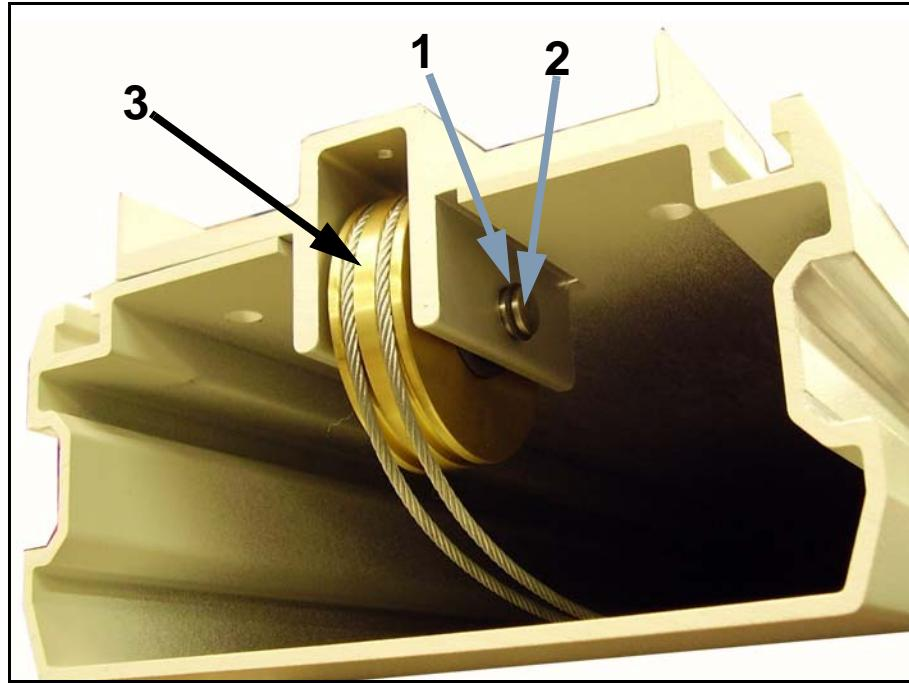

Figure 6-7. Shaft & Pulley
- 6 Remove retaining ring (1 in Figure 6-7), shaft (2) and pulley (3).